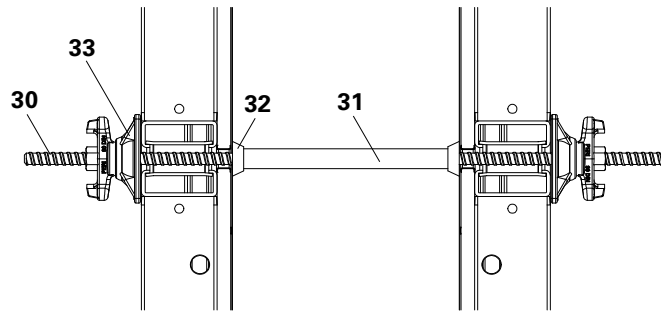

Fig. A5.01
- Tie Rod DW 15 (30)
- Spacer Tube (31)
- Cone (32)
- Wingnut Pivot Plate DW 15 (33)
- (Fig. A5.01)